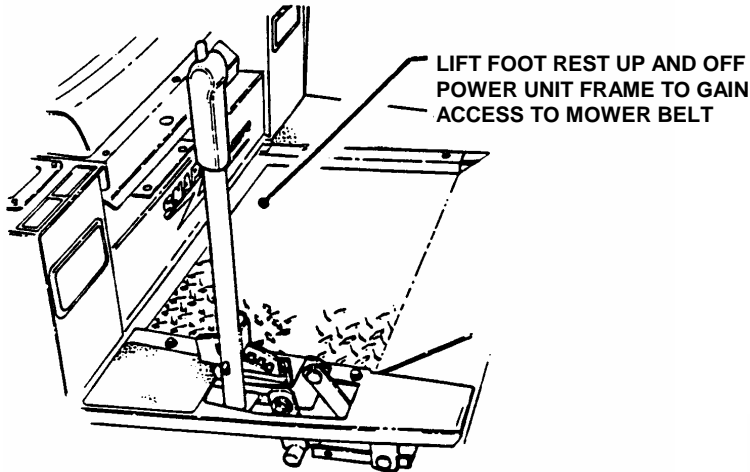

FIGURE 3.3
- Remove foot rest. See Figure 3.3.